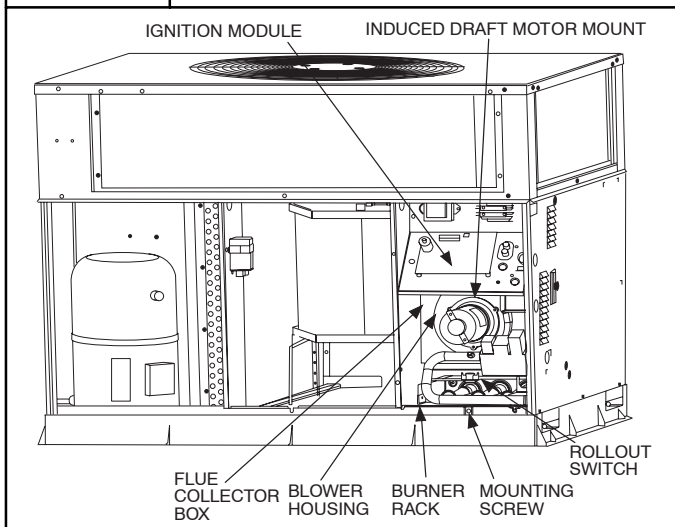

FIGURE 19
2. Remove the 5 screws that attach induced-draft motor mounting plate to blower housing (see Figure 19).
3. Slide the assembly out of the blower housing (see Figure 19). Clean the blower wheel. If additional cleaning is required, continue with Steps 4 and 5.